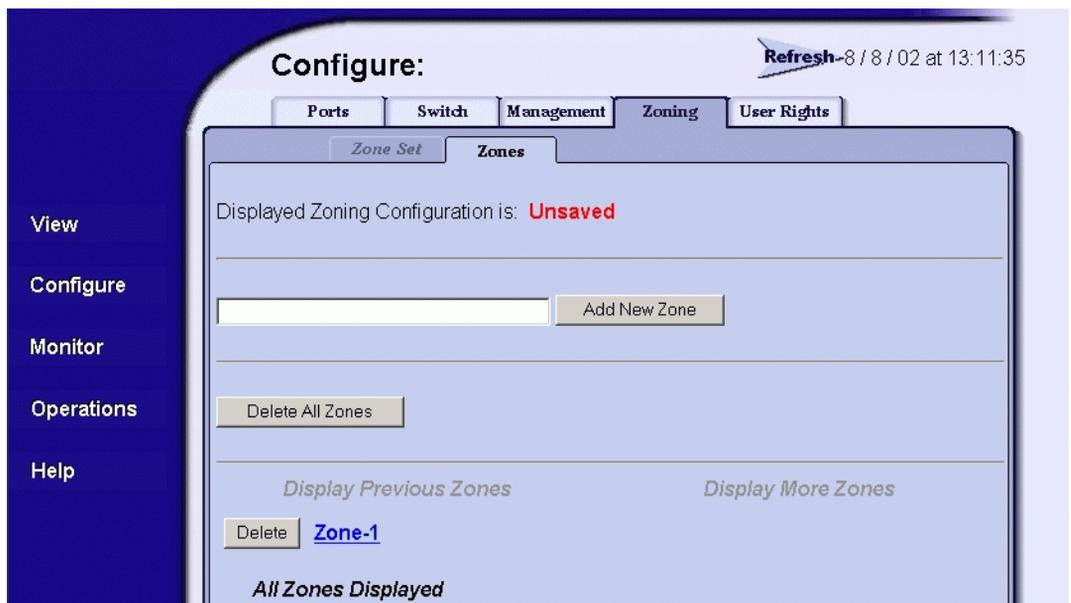

Figure 3–3: Configuring zones
2. At the **Configure** page, choose the **Zoning** tab and the **Zones** tab. The **Zones** tab view displays as shown in Figure 3–3.